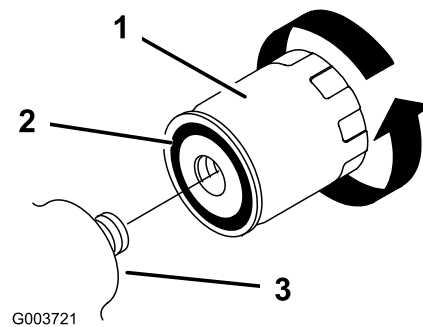

Figure 32
4. Remove the old filter (Figure 32) and wipe the surface of the filter adapter gasket clean.
5. Apply a thin coat hydraulic fluid to the rubber gasket on the replacement filter (Figure 32).
6. Install the replacement hydraulic filter onto the filter adapter (Figure 32). Tighten it clockwise until the rubber gasket contacts the filter adapter, then tighten the filter an additional 1/2 turn.